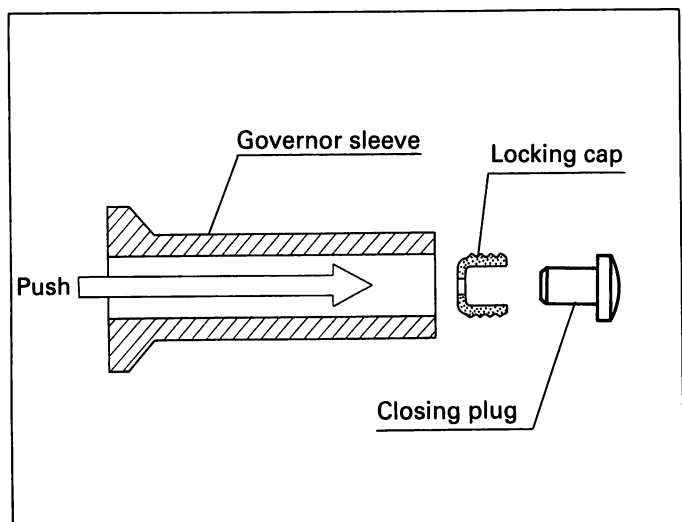

Fig. 93 Governor sleeve assembly
2. If not within the specified range, according to the result of the above measurement, select a suitable closing plug (117) so that the "MS" dimension is as specified. Then, remove the closing plug from the governor sleeve and replace it with the selected closing plug. (Fig. 93)
- 2 Take care not to lose the locking cap (116).